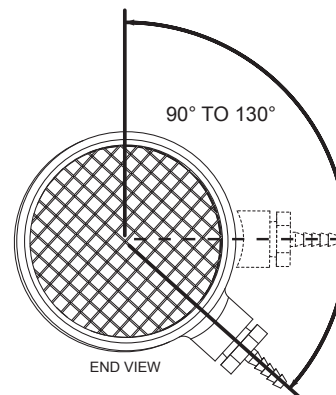

Figure 25. Intake Air Connection Hose Barb Angle Range for Proper Operation
Ensure that the hose barb installed in the Tee fitting **IS NOT** facing down towards the ground (180° - 6 o'clock position) before venting installation begins. The barb fitting must be angled between 90° and no more than 130° as shown in **Figure 25**. If the barb fitting is facing down, residual condensate that occasionally forms in the intake-air pipe can drain into the Blocked Intake Air switch through the attached sensing tube and damage the switch. This condition can also lead to Blocked Intake Air fault conditions and associated control system lock outs.
Inspect the angle of the tee fitting's 1/2 inch branch and hose barb while viewing from the end of the tee. See **Figure 25** (page 33). If the angle of the tee fitting 1/2 inch branch and hose barb is lower than shown, adjustment will be necessary. To adjust the intake-air tee fitting angle, follow the steps listed below.
4. Adjust the angle of the tee fitting so that the 1/2 inch branch and hose barb are at the proper angle as shown in **Figure 25** (page 33).